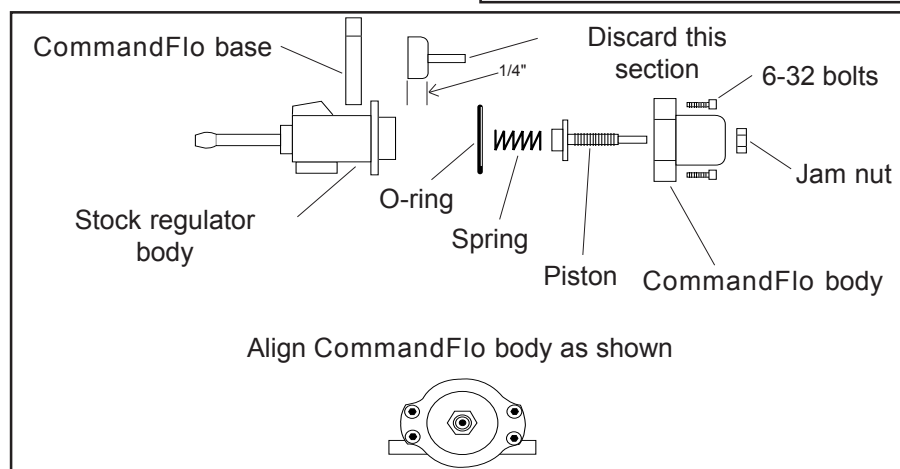

Figure 1
**STEP 6.** Carefully mount the regulator body in a vise and mark 1/4" down on the regulator "hat." Using a hacksaw, cut off the top of the regulator hat at the mark. **Be careful:** the top is under pressure from the spring inside! Remove and discard the top and spring (see fig. 1).
brass piston. Without dropping the spring, install the **CommandFlo** body onto the stock pressure regulator. Place a drop of Locktite® on each of the four supplied 6-32 bolts and carefully attached the **CommandFlo** base (use caution when installing the screws to avoid stripping out the base). Once the base is attached, align the **CommandFlo** assembly as shown (see fig. 1).